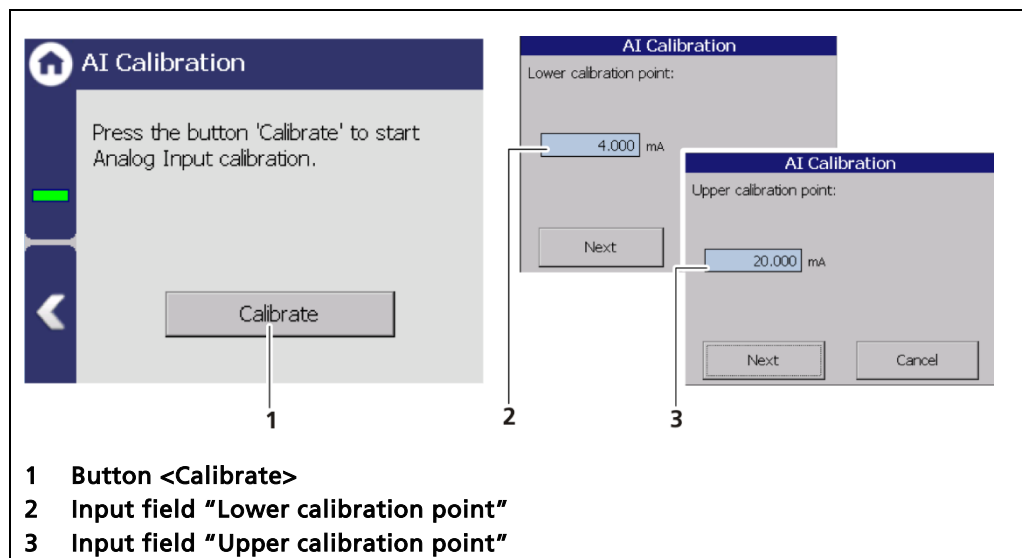

Fig. 111 Analog input: calibration
1. Click on the button <Calibrate> (Fig. 111, item 1) to start the calibration process.
- ▶ The lower calibration point is displayed (Fig. 111, item 2).
- ▶ The upper calibration point is displayed (Fig. 111, item 3).